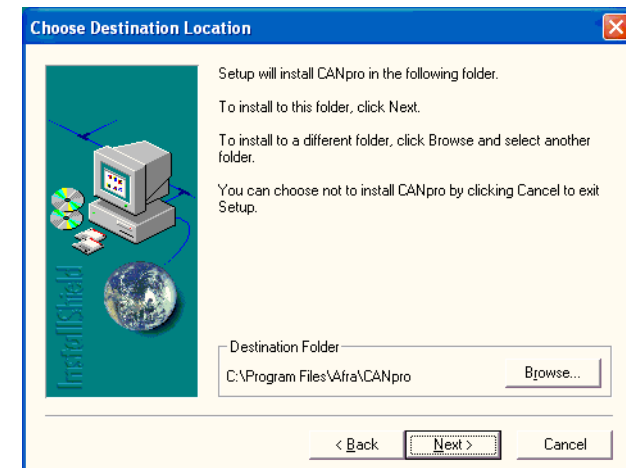

Figure 1 - 18: Choose Destination Location Dialog Box
- 9 Use the Choose Destination Location for Machines Dialog Box (Figure 1 - 19) to select the path for the “machines” folder. The default path is **C:\CANpro\Machines** (recommended).